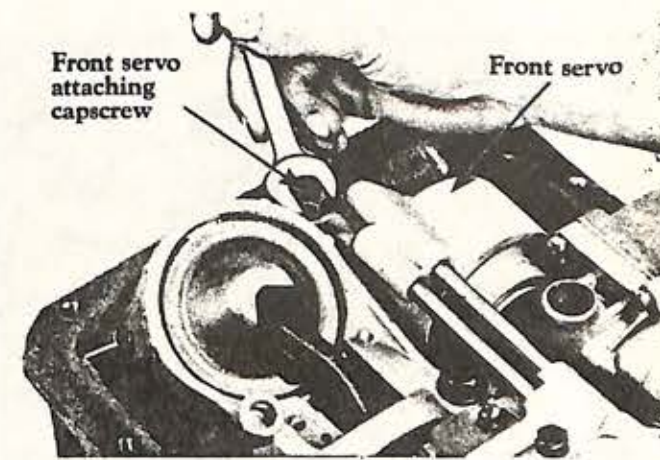

Fig. 29
2. Loosen the front servo attaching capscrews three turns (Fig. 29).